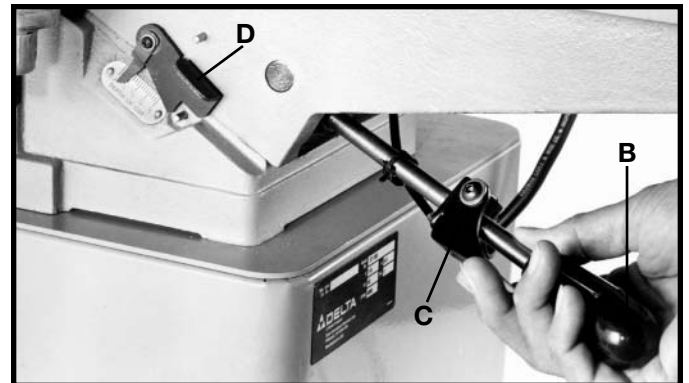

Fig. 35
2. Grasp the infeed table raising/lowering handle (B) Fig. 35, and squeeze locking lever (C), and raise or lower handle (B).
3. **NOTE:** When raising or lowering the infeed table, a depth stop (D) Figs. 35 and 36, will automatically stop the table at an 1/8" depth-of-cut. To move the table past this point, the depth stop must be lifted as shown, and the table can be moved up or down.